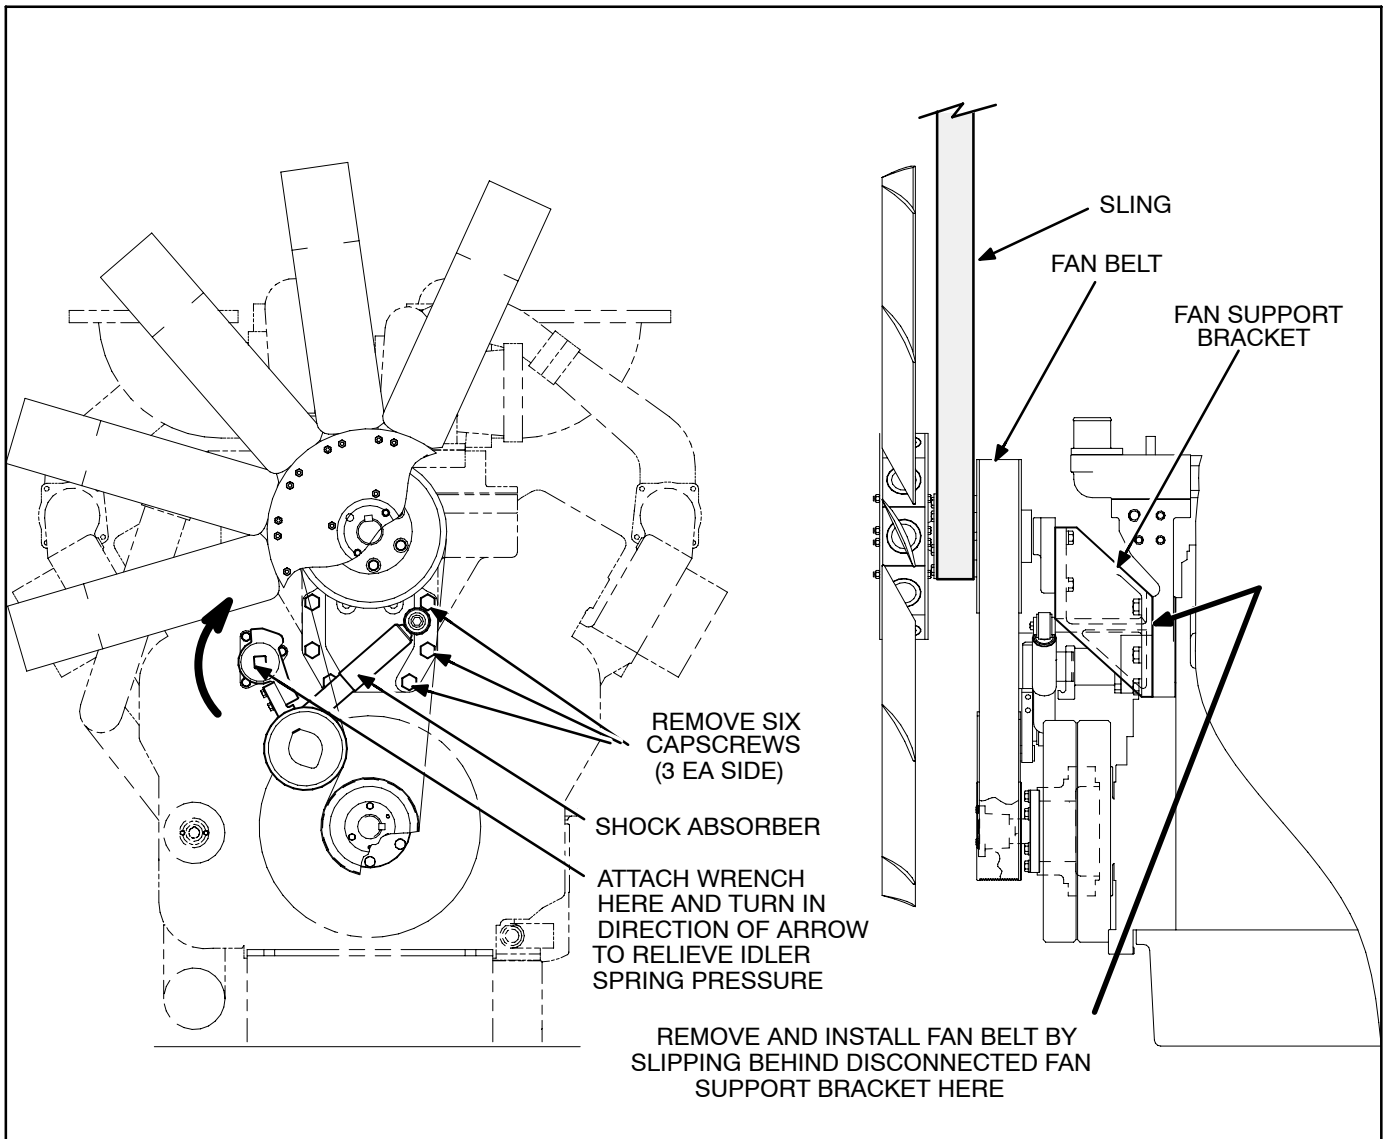

FIGURE 5-4. FAN BELT REPLACEMENT
4. Using an overhead hoist and sling assembly, position sling around spacer (between hub and fan). Take up slack on sling just enough to support fan assembly (Figure 5-4).